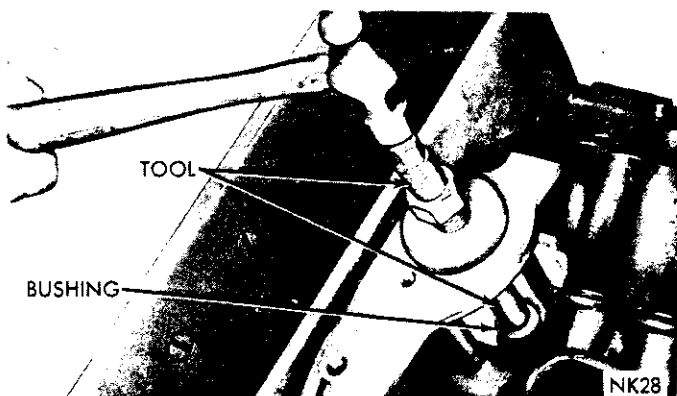

Fig. 35—Installing Distributor Drive Shaft Bushing
(1) Slide new bushing over burnishing end of Tool C-3053 and insert the tool and bushing into the bore.
(2) Drive bushing and tool into position, using a hammer, (Fig. 35).